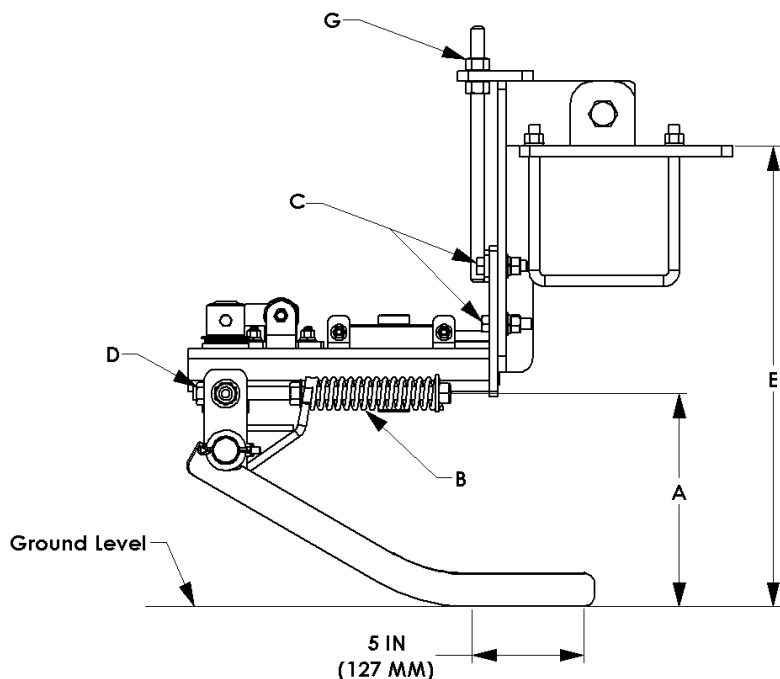

Figure 7-1: Row Finder Adjustment
When harvesting, the row finder wands should be adjusted like Figure 7-1 such that there is 5 inches (127 mm) of contact between the ground and row finder wands. Adjustment spring (B), shown in Figure 7-1, can be adjusted to apply more down pressure to ensure constant contact with the beet row.